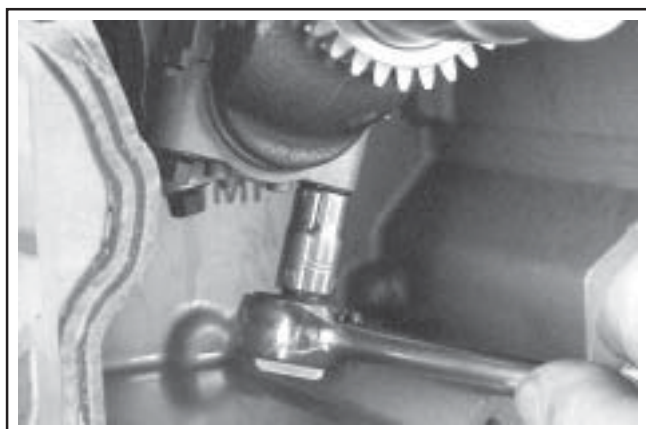

Figure 9-61. Removing Connecting Rod End Cap.
1. Remove the two hex flange screws securing the closest connecting rod end cap. Remove the end cap. See Figure 9-61.